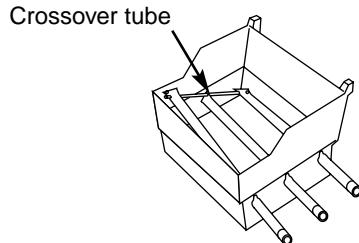

Figure 14
g) Lift and twist the burner assembly slightly, to separate the crossover tube from the burners. Figure 14. Remove the burners from the cooking box.